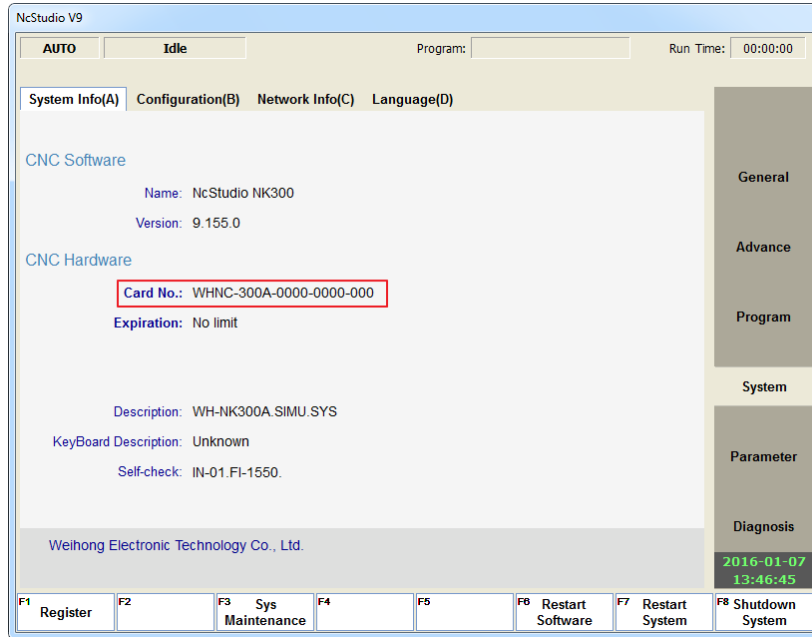
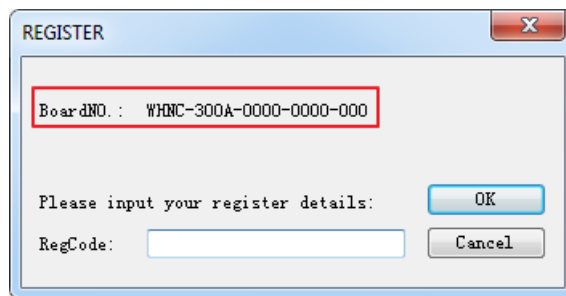

Fig. 3-76 Board No. Display-1
Fig. 3-77 Board No. Display-2
- 1) View the current board No. in interface **System Info** in functional area **System**, as shown in Fig. 3-76. Press F1 to open dialog box “Register” and you can also see the board number as shown in Fig. 3-77.